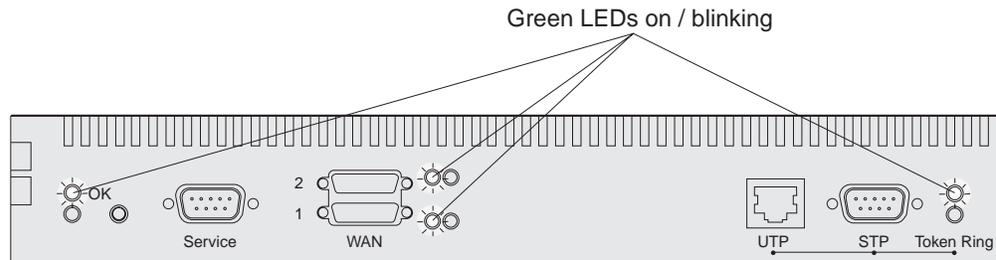

Figure 1-18. LEDs On or Blinking on Port Side after Successful Boot
As soon as you plug in the IBM 2210, the power-on self-test (POST) begins. During the POST, the LEDs light in various combinations. The POST and boot will require about 1 minute. At the end of the boot, the green LEDs for the system (OK) and for any port that is active should be on or blinking. Figure 1-18 shows the LED states for a IBM 2210 Model 12T after a successful boot.